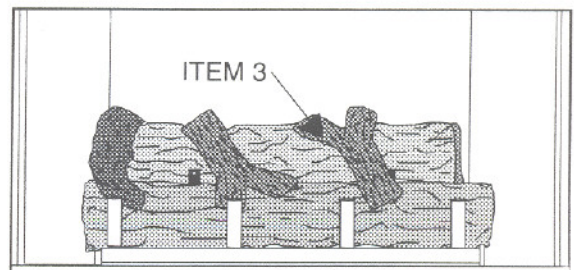

Figure 38
6. See Figure 38. The remaining "Y" Log (Item 3) is installed next. This time the straight portion of the log lies on the front log 1" to 2" to the right of center. Angle this log slightly to the left and rest the "Y" portion on the indentations located near the center of the Back Log.